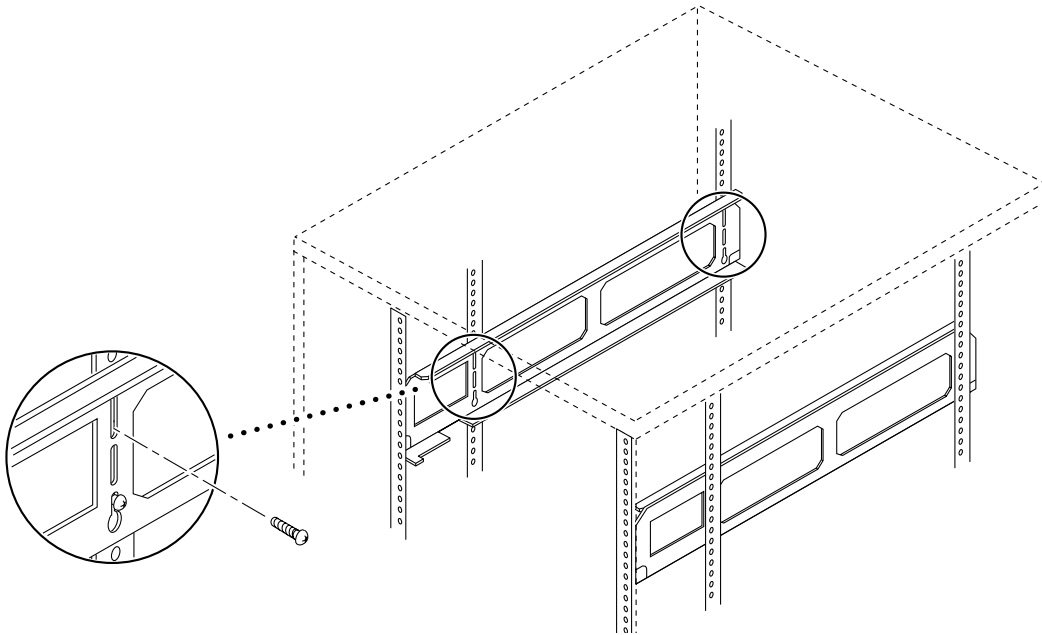

FIGURE 4-5 Threading Screws Into the Cabinet
1. **Loosely thread in the two bottom screws on the left side of the cabinet (FIGURE 4-5).**